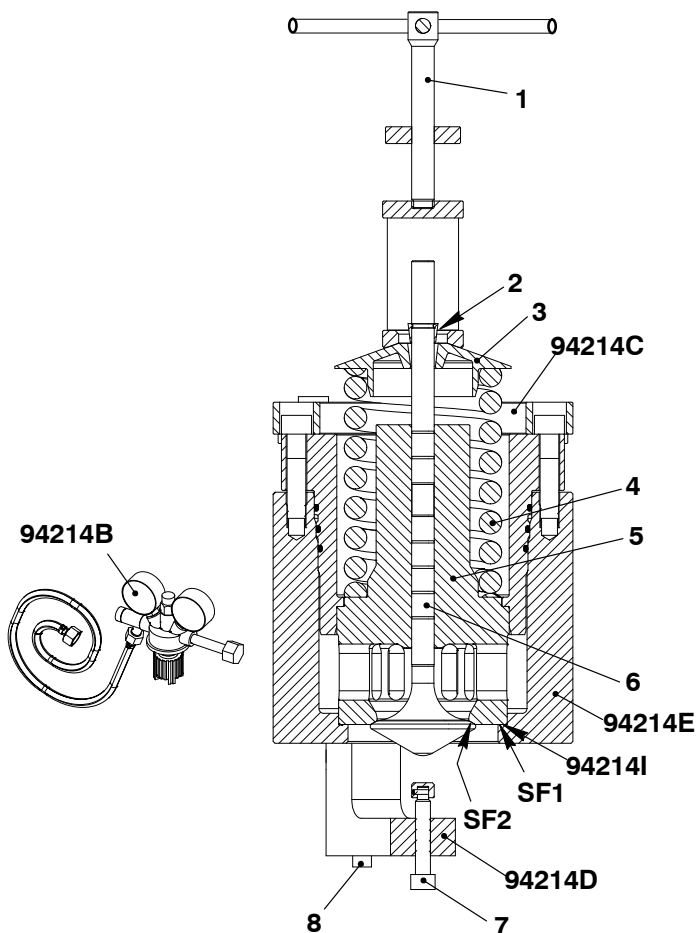

Fig. 8
- 1) Apply lube oil to the valve spindle (6, Fig. 8).
- 2) Put the valve spindle (6) into the valve guide (5).
- 3) Install the bracket (94214D) to the bush (94214E) with the two M6x75 screws (8).
- 4) Turn the special screw (7) fully in.
- 5) Turn the T-handle (1) in to compress the spring (4).
- 6) Install the valve cotter (2) on the valve spindle (6).
- 7) Turn the T-handle (1) back to release the tension in the spring (4). Make sure that the valve cotter (2) is fully in the spring carrier (3).